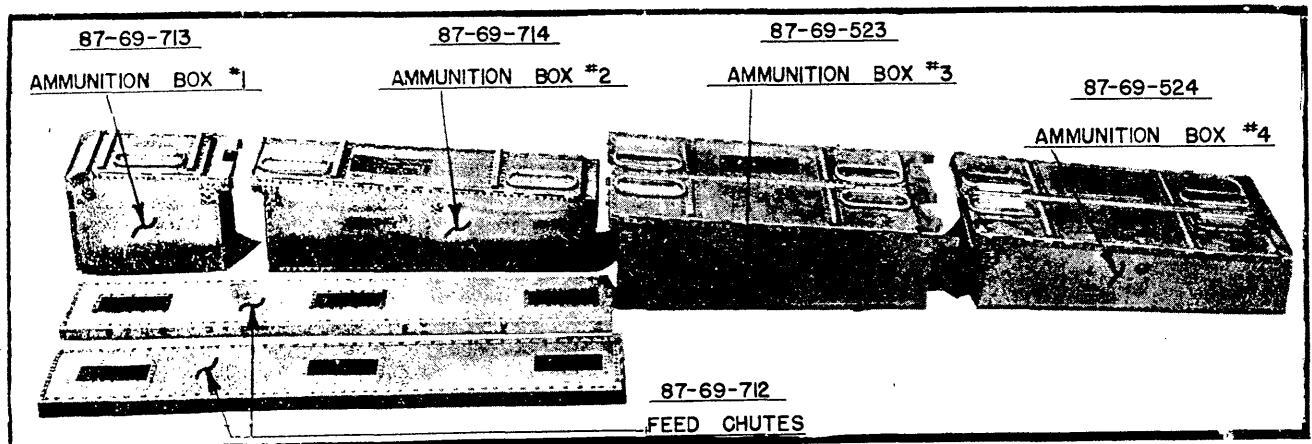

Figure 115 - Ammunition Boxes and Chutes
(1) The ammunition installation consists of two single and two double stainless steel ammunition boxes in each wing panel. (See figure 115.) The normal capacity is 235 rounds per gun. The two leading outboard compartments serve the center gun. The two trailing outboard compartments serve the inboard gun, and the two inboard boxes serve the outboard gun. The ammunition boxes are accessible through doors on the top surface of the wing. The feed chute to the center gun must be removed before the two inboard ammunition boxes can be removed. Instructions for loading the boxes are on instruction plates mounted on their tops.
(2) To Load the Guns. - To load the guns, push the end of the link belt, with cartridges installed, through the feed opening to the gun as far as it will go and release. Pull the operating slide to the rear as far as possible and release. Repeat this operation and the gun is loaded. **BE SURE** that the first cartridge and link are properly engaged by the belt holding pawl.